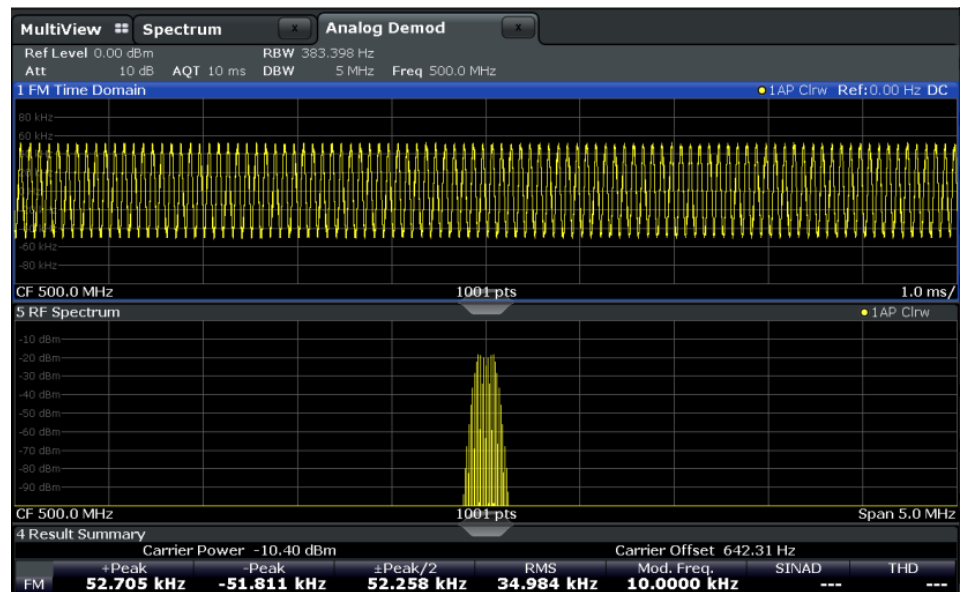

Fig. 8-3: RF spectrum of FM signal with default demodulation bandwidth = 5 MHz
8. As you can see in figure 8-3, the default demodulation bandwidth of 5 MHz is much too large - the actual signal takes up only a small part of the displayed range. That means that any noise or additional signals apart from the FM signal of interest may be included in the measured results. Select the "Demod BW" softkey and reduce the value to 200 kHz.